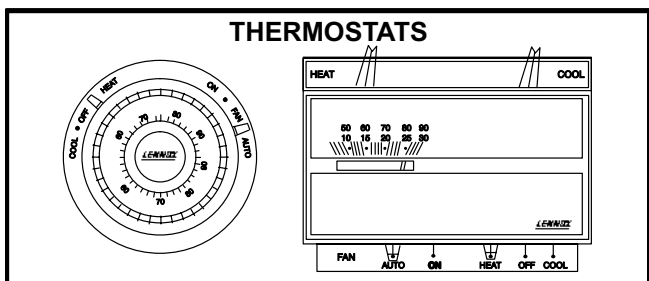

FIGURE 2
- 2 - Set thermostat to lowest setting. See figure 2.